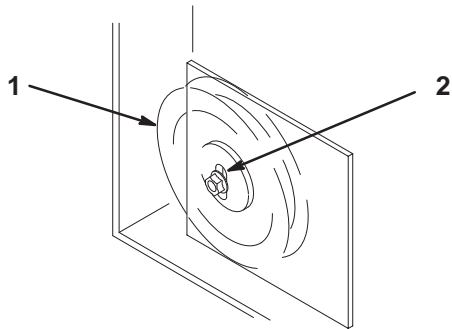

Figure 78
11. If the mower idler plate contacts the end of the adjustment slot and more belt tension is required, a small change to the right side fixed idler can create more belt tension adjustment (Fig. 78).